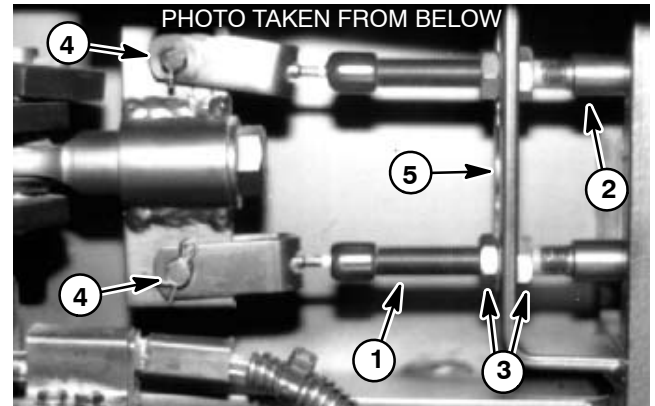

Figure 11
1. Remove brake cable from brake equalizer at front of machine under floorboard (Fig. 11 and 12):